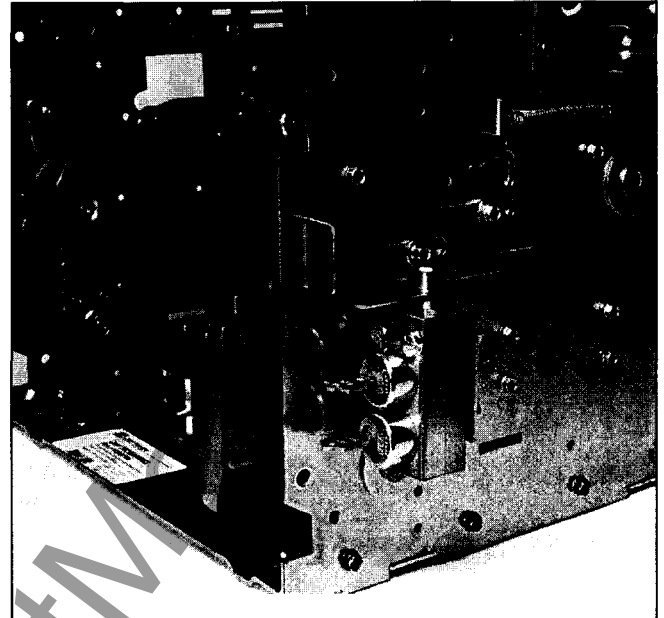

Figure 3-45 Cassette Mounted Key Lock
**Cassette Lock** - A cassette mounted lock can be used in conjunction with different interlocking schemes (such as main-tie-main) (Figure 3-45). The lock holds the circuit breaker trip-free in the connected position, preventing it from being closed.